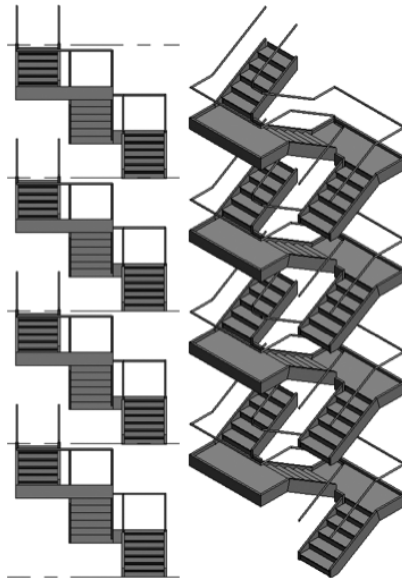

FIGURE 4.19 The completed multi-story stair
4. Once you complete the multistory stair, the stair quickly propagates across all levels (Figure 4.19). If you edit the stair or railings associated to the multistory stair, the entire multistory configuration changes as well.